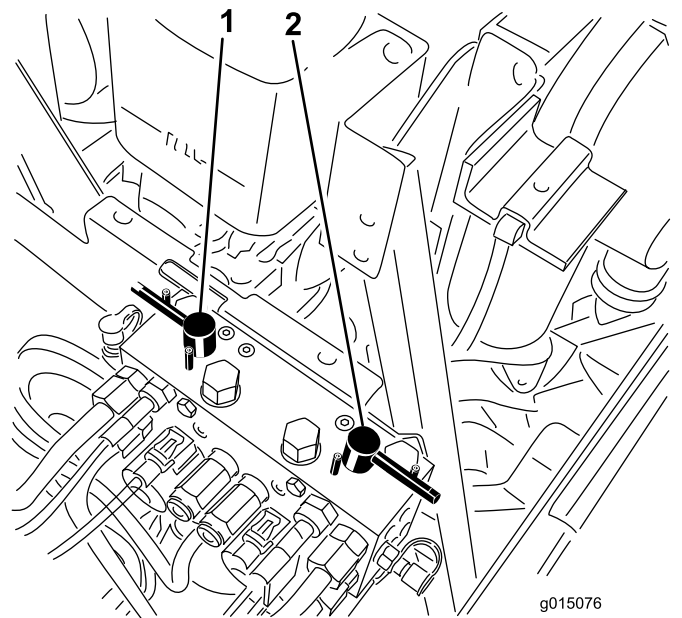

Figure 76
4. Select either front, rear or both backlap levers to determine which units to backlap (Figure 76).